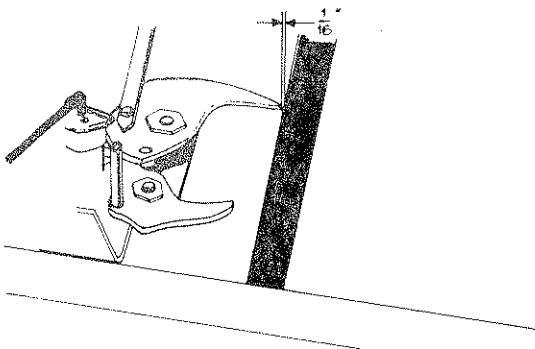

Fig. 23
3. After adjusting the twine fingers, use the manual control to advance the knotter until the twine fingers are in their rest position. Check to see that there is a minimum distance of 1/16 inch from the tips of the twine fingers to the edge of the needle slots, see Fig. 23. Before measuring, push twine finger toward needle slot and make certain to consider any slack in the system.